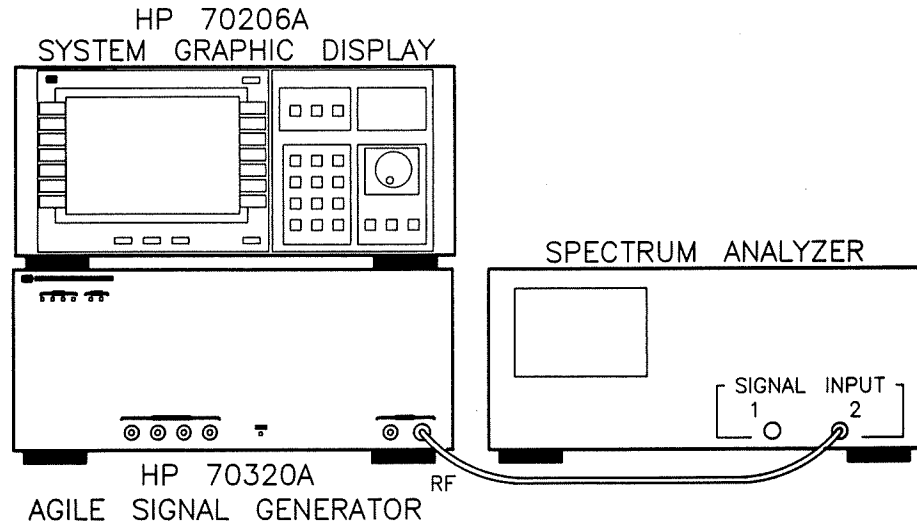

Figure 2-3. Equipment Setup for FM Procedure #1.
1. Connect the HP 70320A to the Spectrum Analyzer as shown in figure 2-3. Turn on the equipment, and make the following adjustments to the Spectrum Analyzer: